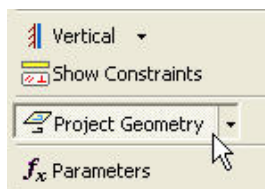
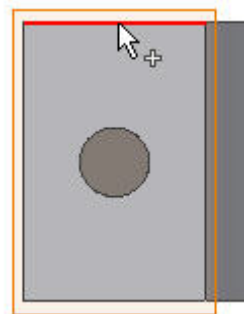

Figure 21
Figure 22
18. Select **Project Geometry** from the 2D Sketch Panel as shown in Figure 21. Select the top and bottom horizontal edges of the part as shown in Figures 22 and 23.